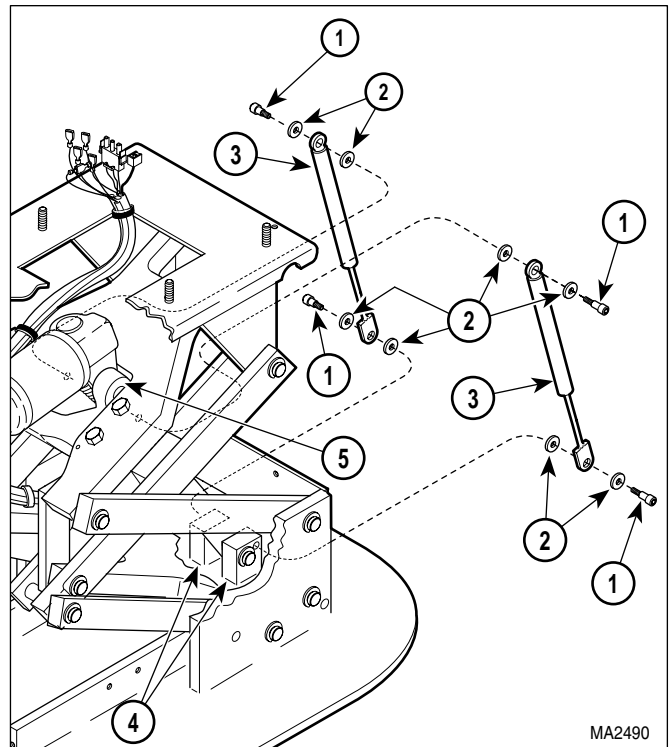

Figure 4-15. Gas Spring Removal / Installation
- (4) Remove two shoulder screws (1, Figure 4-15), four washers (2), and gas spring (3) from brackets (4 and 5). If removing both gas springs, repeat step for remaining gas spring.